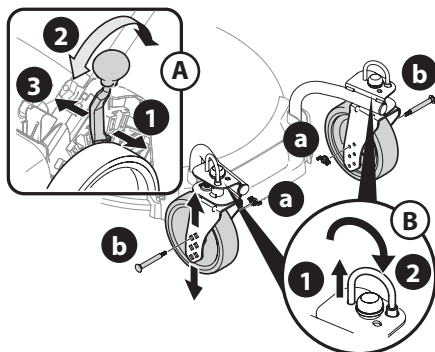

Figure 24
NOTE: The rear wheel cutting height adjustment lever is located above the rear left wheel (Inset A, Figure 24).
NOTE: The caster wheels cutting height are determined by selecting one of six positions on each caster assembly (Figure 24).
6. The casters can be locked in a straight ahead position or positioned to swivel freely (Inset B, Figure 24).